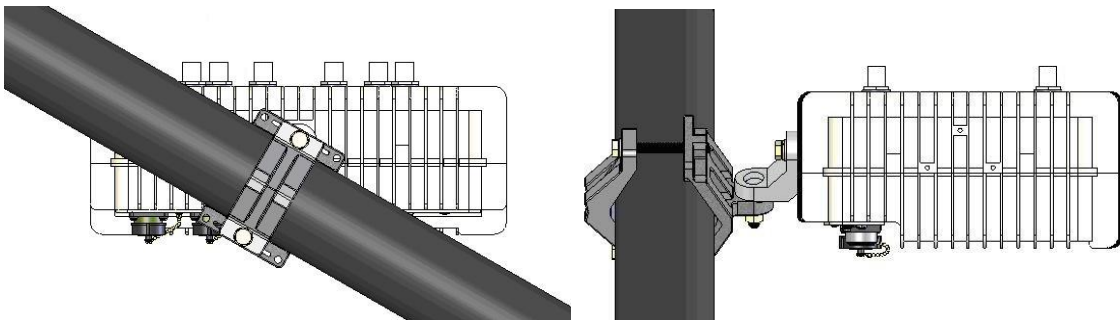

Figure 5: Aligning the MBW 1100 (WLP)
2. Once the MBW 1100 (WLP) unit is mounted, release the bolts slightly and align the MBW 1100 (WLP) unit horizontally using the level, as shown in Figure 5. When the unit is perfectly aligned, firmly close all bolts, applying 120 inch-lbs of torque.